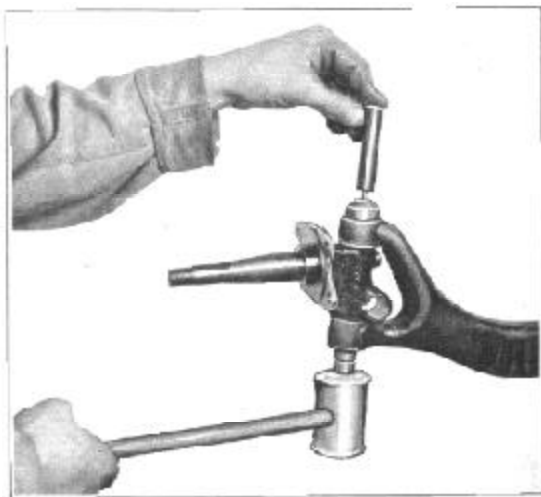

Figure 6
20. Drop 5 new ball bearings through the pressure fitting hole in the top bushing and insert driver J-479-1 as shown in Figure 6 to insure keeping the balls on their race and drive the pin in until the keyways line up.